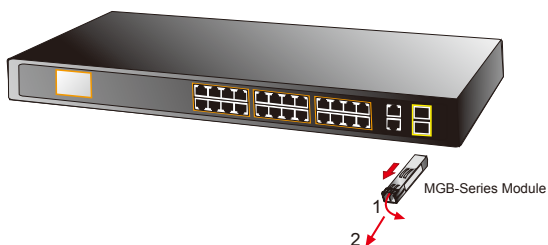

Figure 3-5: How to Pull Out the SFP Transceiver
4. Pull out the module gently through the lever, as Figure 3-5 shows.